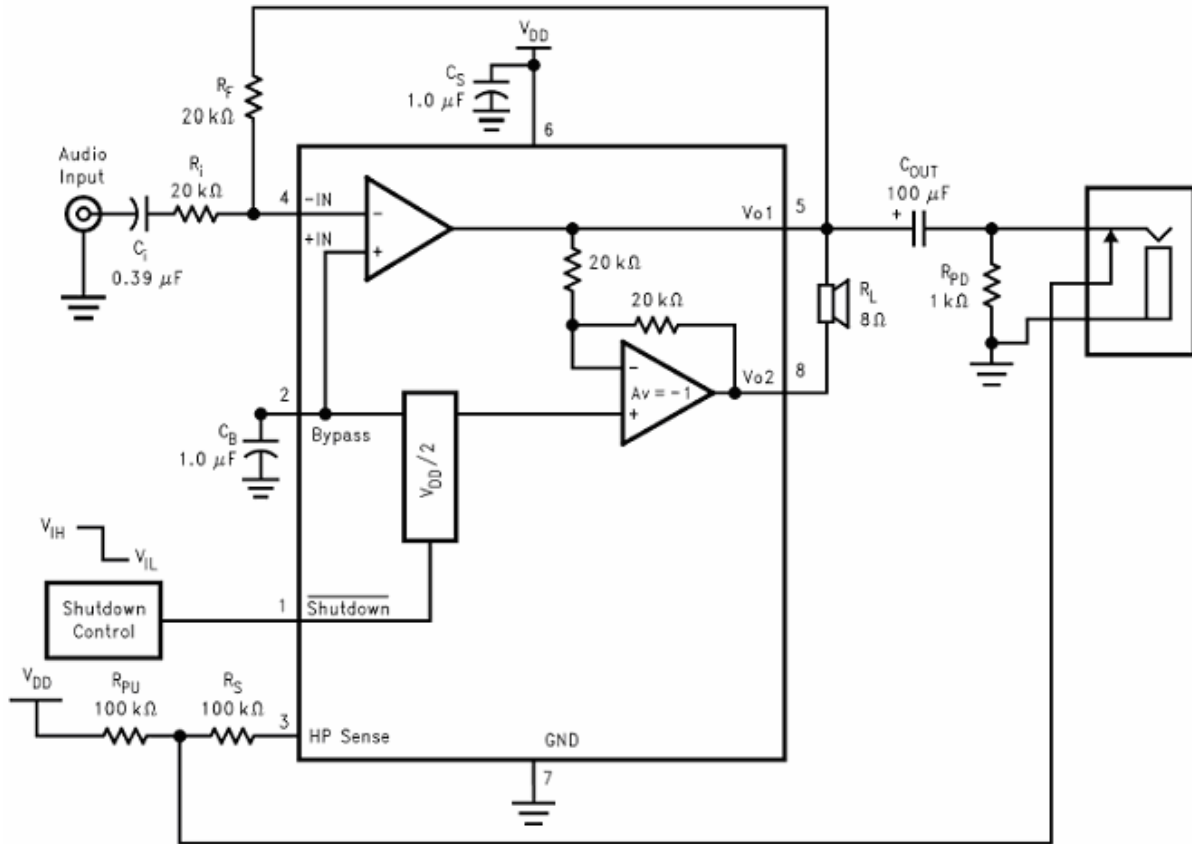

FIGURE 1. Typical Audio Amplifier Application Circuit
- PSRR at 217Hz, VDD = 5V (Fig. 1) 60dB(typ.)
The following specifications apply for the circuit shown in Figure 1 unless otherwise specified. Limits apply for TA = 25°C.
The following specifications apply for the circuit shown in Figure 1 unless otherwise specified. Limits apply for $T_A = 25^\circ C$.
Note 10: PSRR is a function of system gain. Specifications apply to the circuit in Figure 1 where A_v = 2. Higher system gains will reduce PSRR value by the amount of gain increase. A system gain of 10 represents a gain increase of 14dB. PSRR will be reduced by 14dB and applies to all operating voltages.
External Components Description (Figure 1)
As shown in *Figure 1*, the EMA1001 has two operational amplifiers internally, A1 and A2, allowing for a few different amplifier configurations. A1's gain is externally configurable, while A2 is internally fixed in a unity-gain, inverting configuration. The closed-loop gain of A1 is set by selecting the ratio of R_f to R_2 , while A2's gain is fixed by the two internal $20k\Omega$ resistors. *Figure 1* shows that the output of A1 serves as the input to A2, which results in both amplifiers producing signals identical in magnitude, but out of phase by 180° . Hence, the differential gain for the IC is
To optimize device and system performance, proper selection of external components is critical. While the EMA1001 can support a wide range of external component combinations, careful selection of component values can maximize overall system quality. The EMA1001 is unity-gain stable, which gives the designer maximum system flexibility. The EMA1001 should be used in low gain configurations to minimize THD+N values, and maximize the signal to noise ratio. Low gain configurations require large input signals to obtain a given output power. Input signals equal to or greater than 1V_{rms} are available from sources such as audio codecs. Please refer to the section, **Audio Power Amplifier Design**, for a more complete explanation of proper gain selection. Besides gain, one of the major considerations is the closed loop bandwidth of the amplifier. The bandwidth is primarily determined by the choice of external components shown in *Figure 1*. The input coupling capacitor, C_2 , forms a first order high pass filter, which limits low frequency response. This value should be chosen based on needed frequency response for a few distinct reasons.